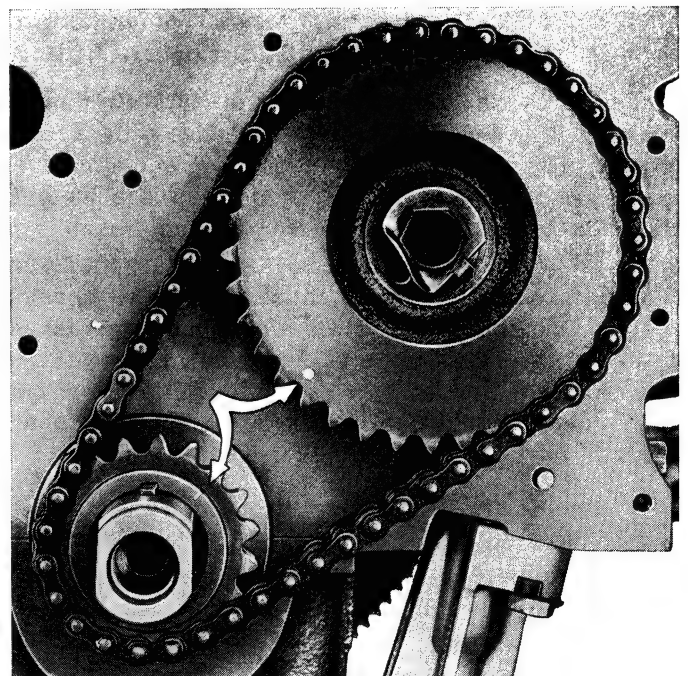

Fig. 36. - Valve timing marks on drive and driven sprocket (engine 115 C.005).
The correct valve timing is obtained when the timing marks on sprockets are indexing as shown in fig. 36.
- without moving the camshaft, **take out the driven sprocket**, and mesh the timing chain with the sprockets; reinstall the driven sprocket and chain, using care that the timing marks are indexing (fig. 36); lock the crankshaft and camshaft by placing tool **A. 60193** on the flywheel; use a torque wrench and draw up the driven sprocket screw with 36.2 ft.lbs (5 kgm) of torque, then bend down the lock plate.
- in this position observe the marks on timing sprockets: they should be lined up (fig. 36).